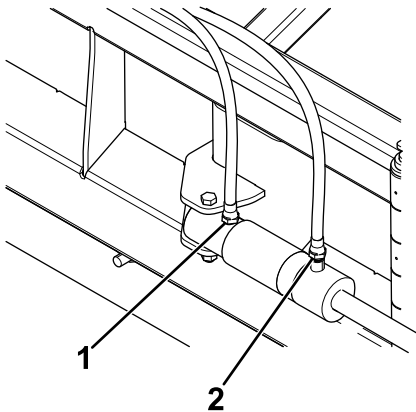

Figure 13
8. Route the hose from XR2 to the outside fitting on the wing hydraulic cylinder (**Figure 13**).
9. Route the hose from XR1 to the inside fitting on the wing hydraulic cylinder (**Figure 13**).